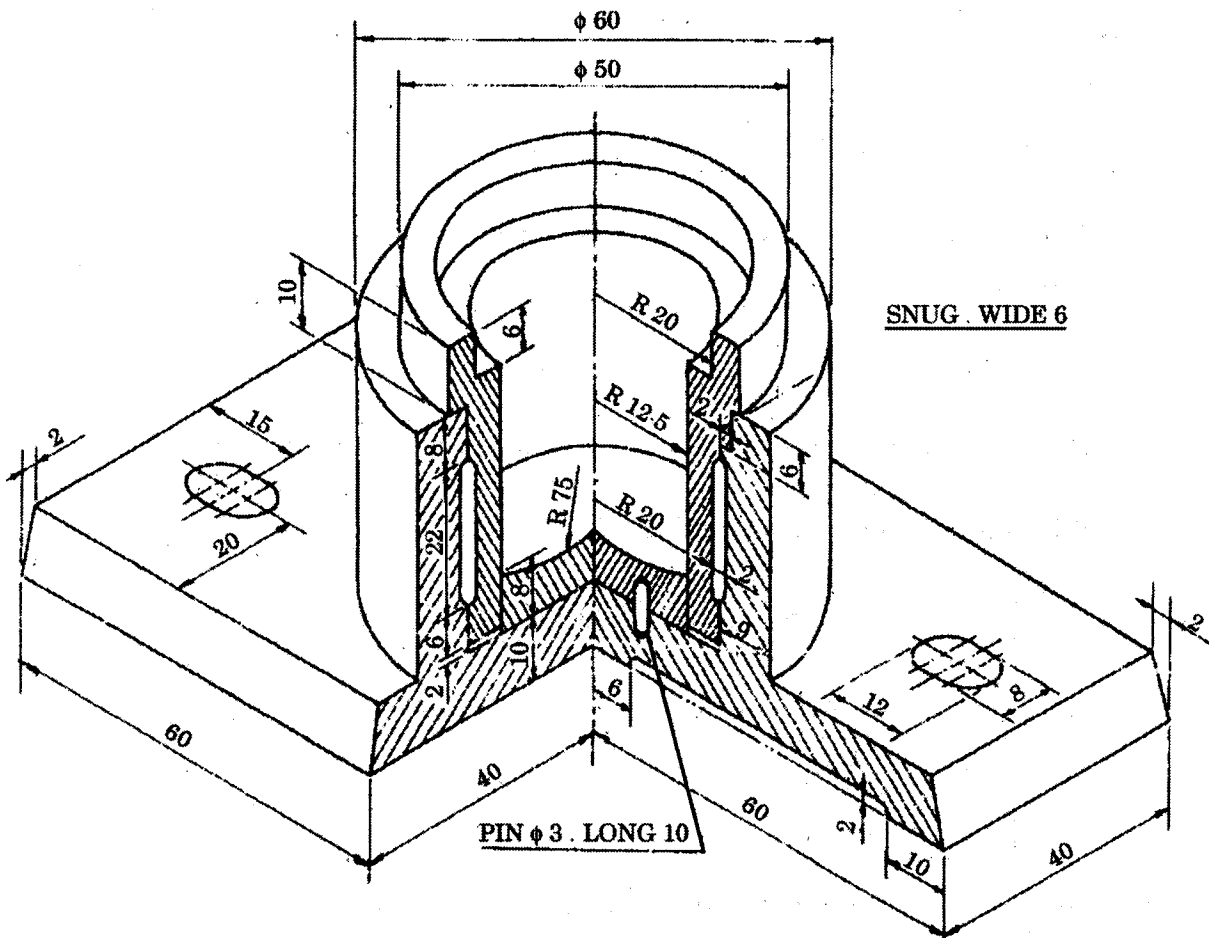

Figure 1
3. Draw the elevation right half in section and plan in full view for the object shown in Figure 1.